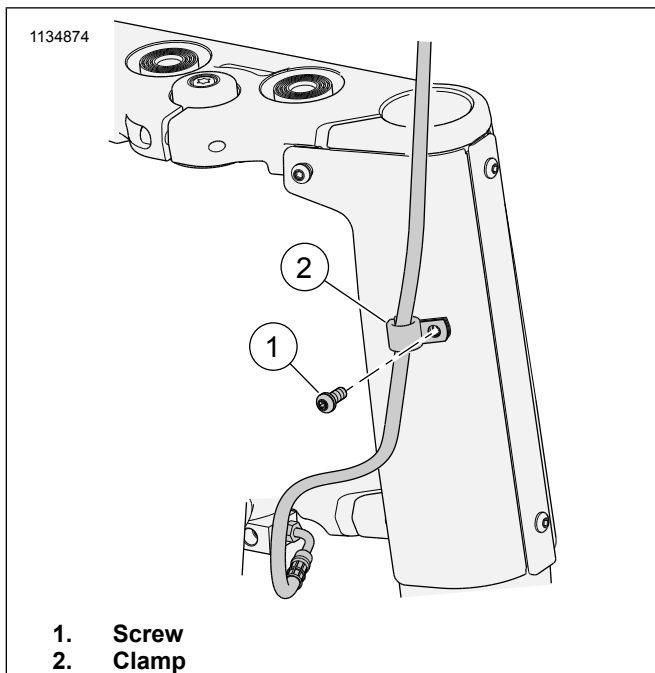

Figure 1. Brake Line Clamp (Typical)
2. See Figure 1. Remove brake line clamp (2) from rear of nacelle.
3. Remove four original equipment (OE) screws securing nacelle at sides.
4. Remove two (OE) screws (8) and washers (9) securing nacelle to headlamp bracket.
7. Clean inside of top, back edge of **new** nacelle front panel (4) with a mixture of 50 to 70% isopropyl alcohol and 30 to 50% distilled water. Allow surface to dry thoroughly. Center trim (10) on panel edge with adhesive side of trim on inside of nacelle panel. Fully seat, remove liner from the adhesive, and compress to adhere to panel.
8. Install **new** nacelle front panel (4) and secure to headlamp bracket with two OE screws (8) and washers (9) removed earlier. Apply two drops of threadlocker to clean threads of screws. Tighten.
10. See Figure 1. Secure brake line clamp (2) to rear of nacelle. Apply two drops of threadlocker to clean threads of screw (1). Tighten.